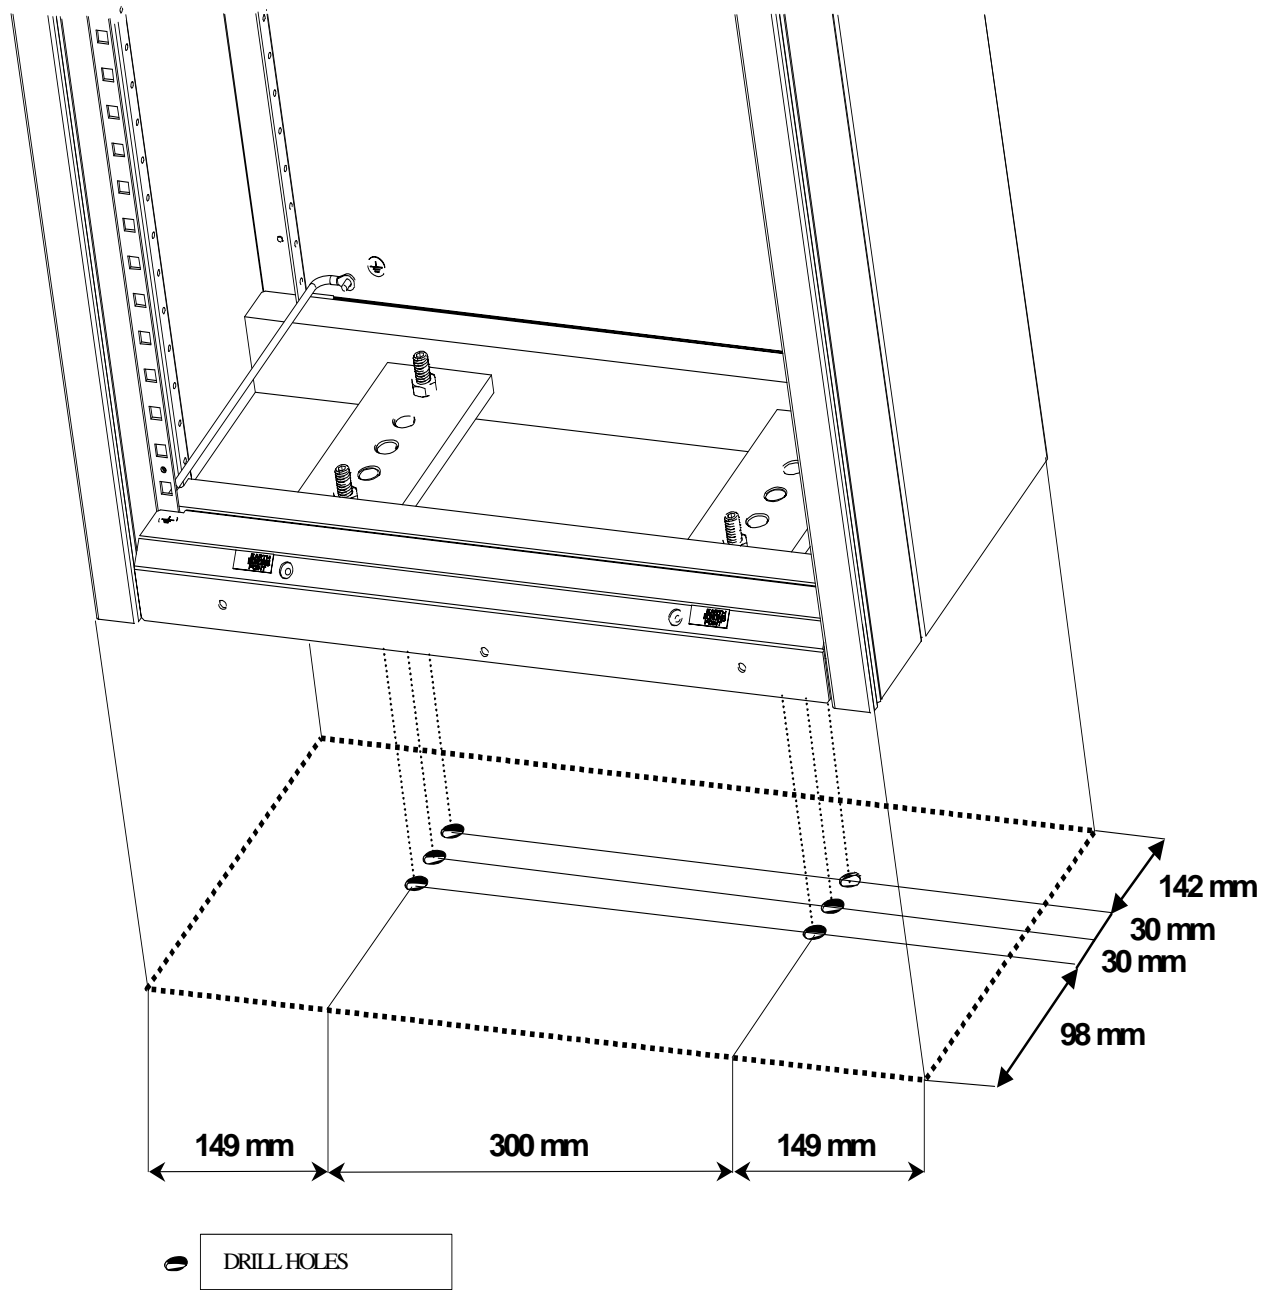

Figure 92 - rack - Drill Holes for Anchoring to the Floor (single rack)
- Mark the base-plate with six holes (1) to be drilled on the floor
- Temporarily remove the rack and drill the holes at the points drawn on the floor (see Figure 92 on page 120).